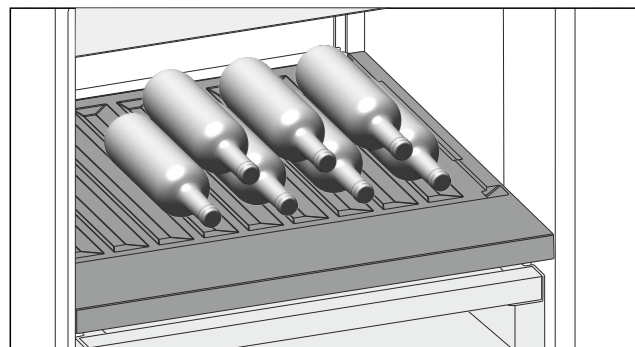

Fig. 162 Example illustration
- ▶ Place bottles in the back row with their bases against the back wall. (see Fig. 162)